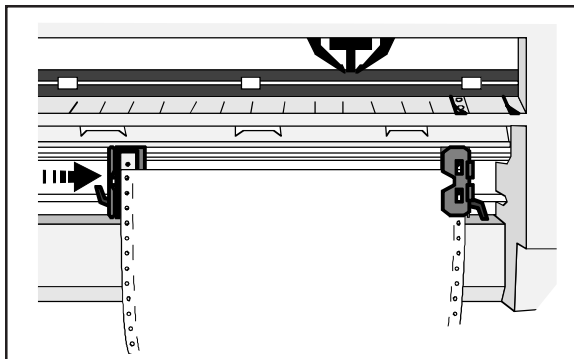

Figure 3-8. Loading Paper Into the Tractors
6. Mount the paper onto the first three pins of both tractors, as shown in figure 3-8, and close the tractor doors. You'll need to slide the right-edge tractor left or right as needed until its pin belt aligns with the paper holes.